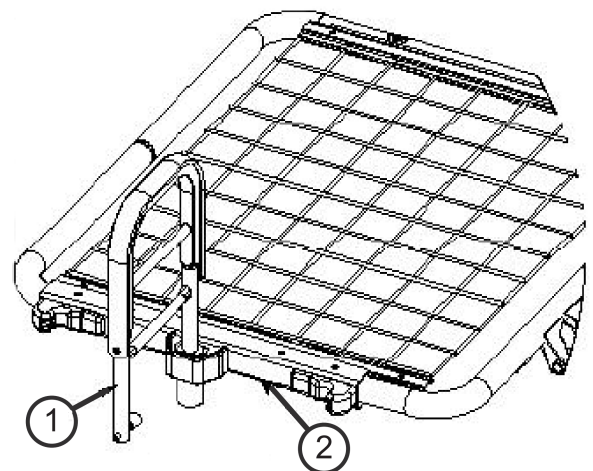

Figure 6
5. To remove the assist handle: orient the assist handle perpendicular to the sleep surface as shown in Figure 6. Pull straight up on the assist handle to remove.